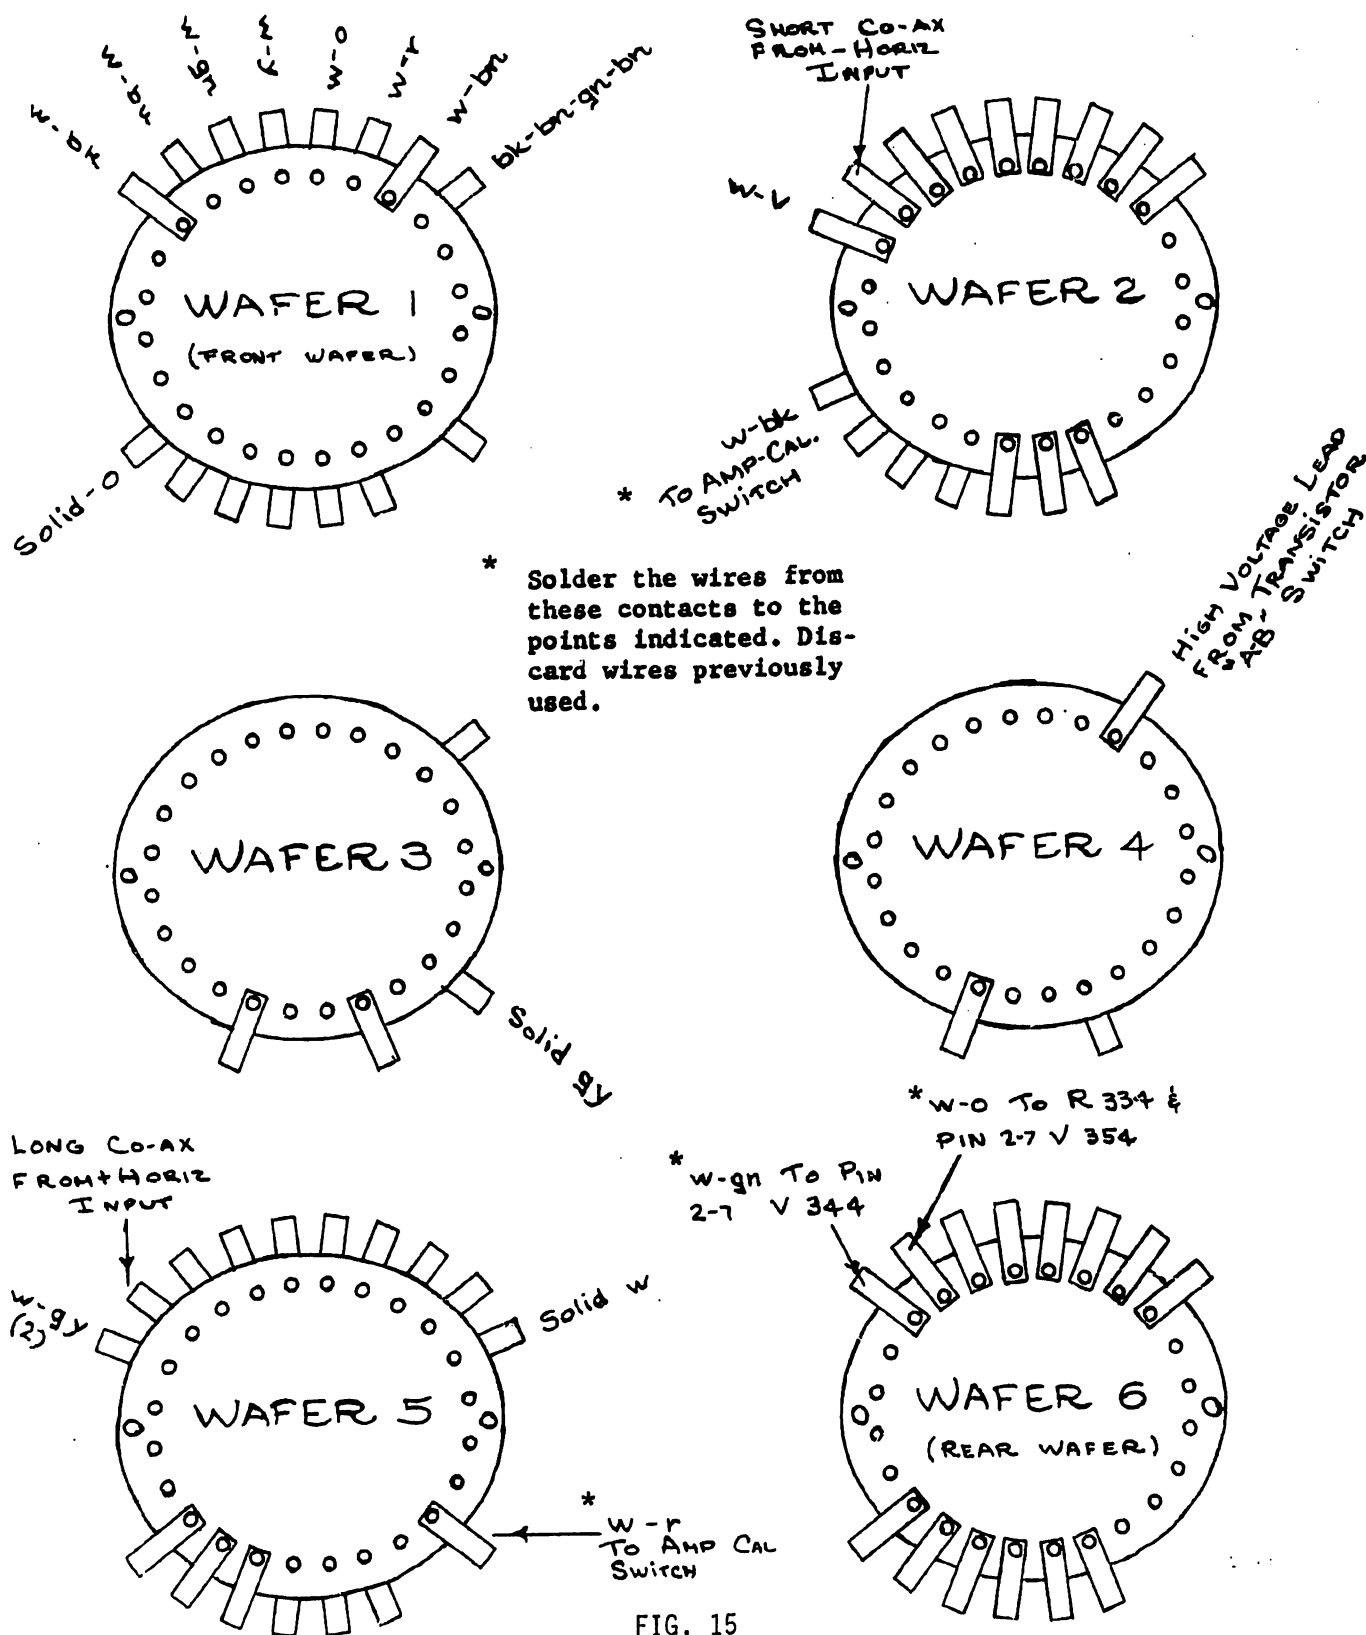

FIG. 15
- () 77. Solder the wires to the switch as shown in Fig. 15.